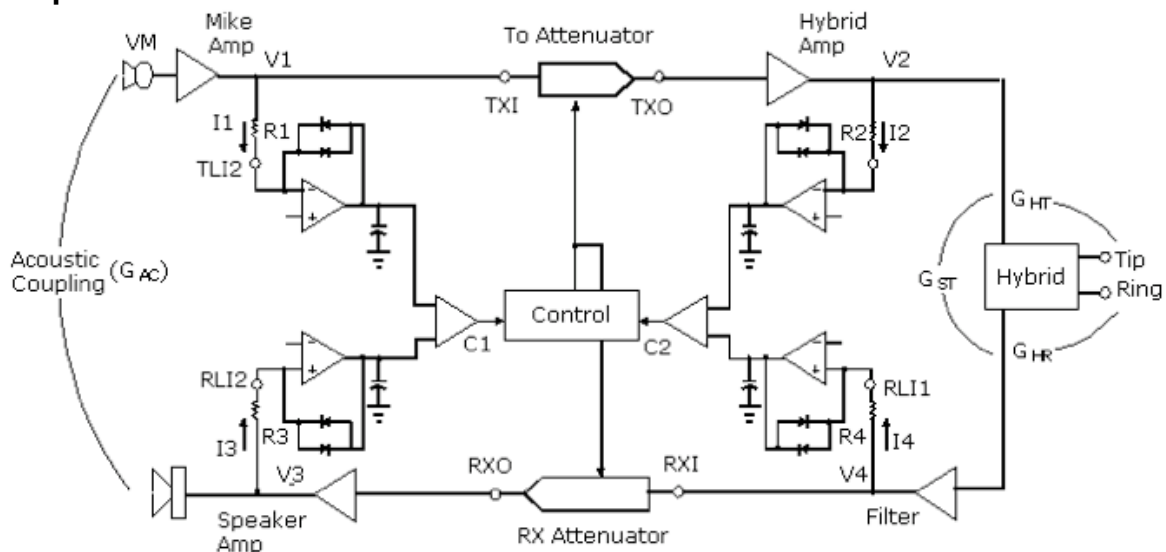

Figure 10. Basic Block Diagram For Design Purpose
Referring to Figure 10 (the coupling capacitors have been omitted for simplicity), the following definitions will be used (all measurements are at $1.0KHz$)
- To provide a reasonable signal level to the TLI2 level detector; and 3) to minimize any gain applied to broadband noise generated within the attenuator. However, to cover the normal voice band, the microphone amplifier's gain should not exceed 48dB. For the circuit of Figure 10, the gain of the microphone amplifier was set at 35V/V (31dB), and the differential gain of the hybrid amplifiers was set at 10.2V/V (20.1dB).
Referring to Figure 10, the gain from Tip/Ring to the filter input was measured at 0.833V/V (-1.6dB), the filter's gain is unity, and the receive attenuator's gain is 2.0V/V (+6.0dB) at maximum volume. The speaker amplifier's gain is set at 22V/V (26.8dB), which puts the overall gain at ≈ 31.2 dB.
The above equations can be used to determine the resistor values for the level detector inputs. Equation 6 can be used to determine the R1/R3 ratio, and Equation 10 can be used to determine the R4/R2 ratio. In Figure 10, R1-R4 each represent the combined impedance of the resistor and coupling capacitor at each level detector input. The magnitude of each RC’s impedance should be kept within the range of 2.0K-15KΩ in the voice band (due to the typical signal levels present) to obtain the best performance from the level detectors. The specific R and C at each location will determine the frequency response of that level detector.
Where R is the added resistor, RT is the resistor normally between pins 14 and 15 (typically 120Ω), and ΔV is the difference between VB and the voltage at C7 at idle C refer to (Figure 10)